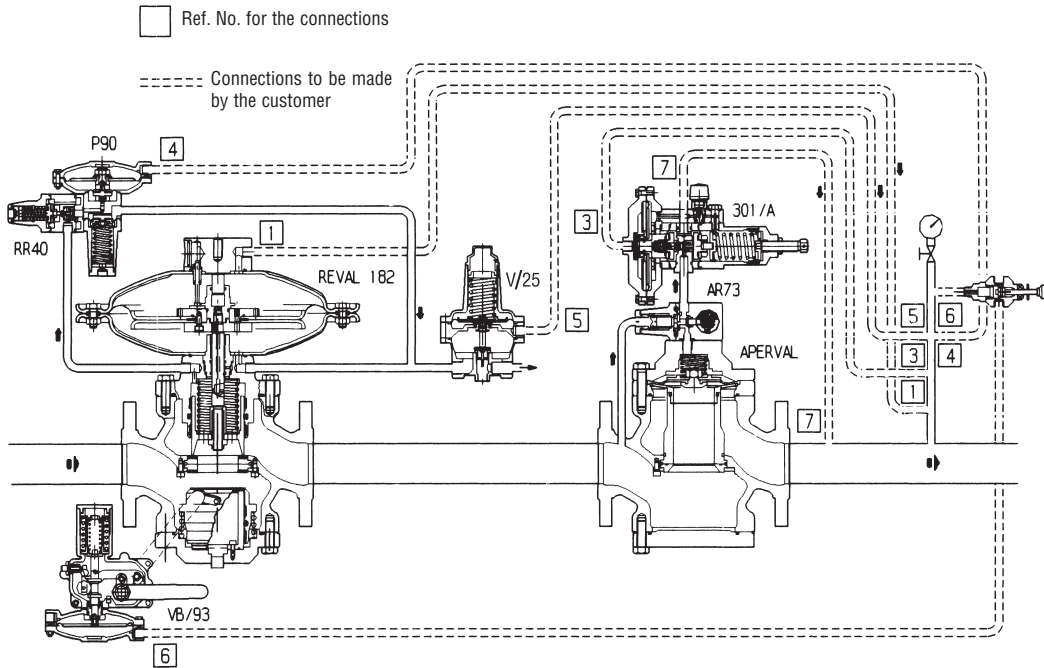

Fig. 12
- Reval 182 regulator (fig. 12);